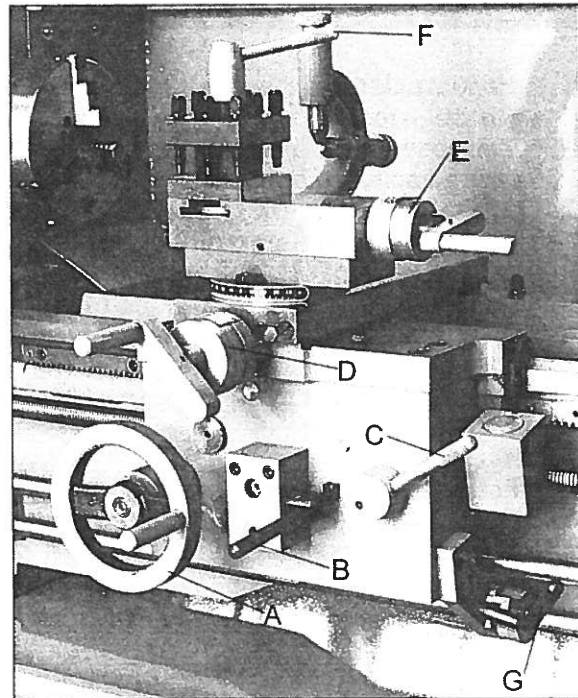

Fig. 12
12. **Longitudinal Traverse Hand Wheel (A, Fig. 12)** – located on the apron assembly. Rotate hand wheel clockwise to move the apron assembly toward the tailstock (right). Rotate the wheel counter – clockwise to move the apron assembly toward the headstock (left).
13. **Feed Selector (B, Fig. 12)** – located in the center front of the apron assembly. Push the lever down activates the crossfeed function. Pull the lever up activates the longitudinal function.
14. **Half Nut Engage Lever (Thread Cutting) (C, Fig. 12)** – located on front of the apron. Move the lever down to engage. Move the lever up to disengage.
15. **Cross Traverse Handwheel (D, Fig. 12)** – located above the apron assembly. Clockwise rotation moves the cross slide toward the rear of the machine.
16. **Compound Rest Traverse Handwheel (E, Fig. 12)** – located on the end of the compound slide. Rotate clockwise or counter – clockwise to move or position.
17. **Tool Post Clamping Lever (F, Fig. 12)** – located on top of the tool post. Rotate counter – clockwise to loosen and clockwise to tighten.
22. **Forward/Reverse Lever (G, Fig. 12)** – located on the right side bottom of the apron. Push the lever down for counter – clockwise spindle rotation (forward) . Pull the lever up for clockwise spindle rotation (reverse) . Neutral position, the spindle remains idle.